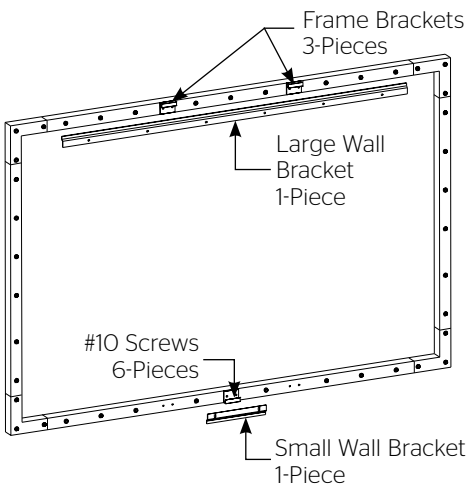

Figure 2
1. Use the supplied #10 screws to attach three frame brackets to the back of the frame as shown in Figure 2.